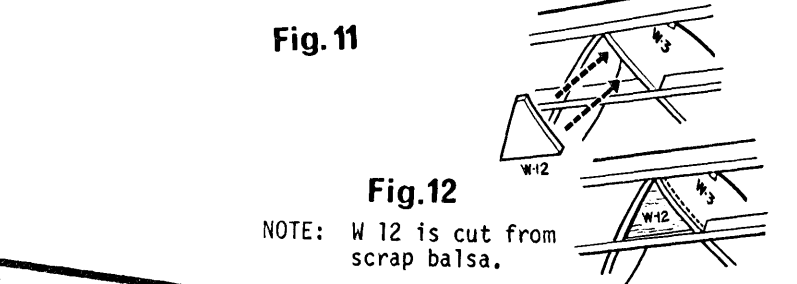
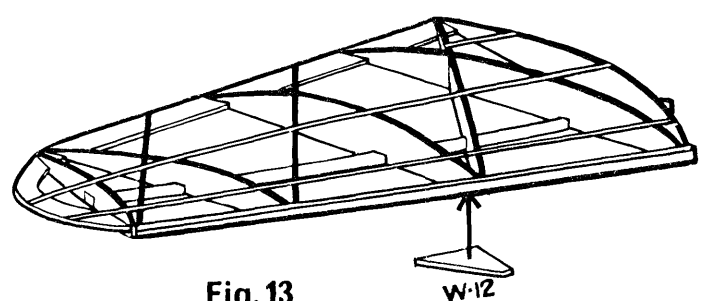
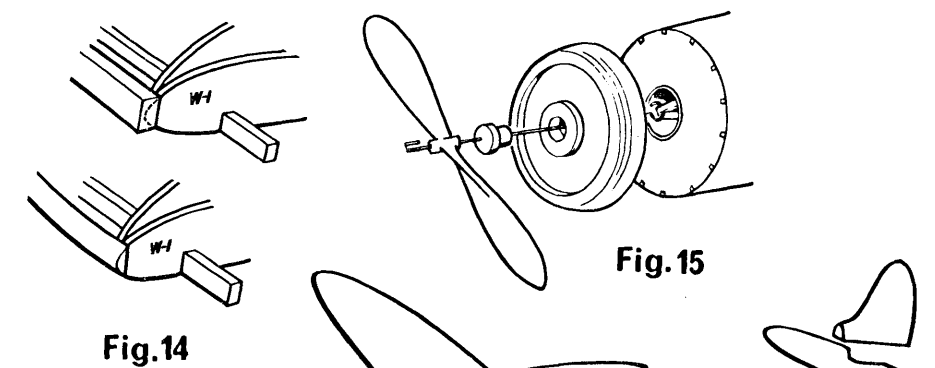

Fig. 11
Fig. 13
Fig. 14
STEP 12. Now glue W 10 to W 11. When dry, glue to W 8 (Fig. 11) at an angle shown in FIG. E. Cut leading edge spar to length (FIG. D) and glue to front of ribs, pin to hold in position while drying. (Note it will make assembly of leading edge easier if the tips of wing formers are sanded to a flat surface.) When dry pins may be removed. Proceed by gluing W 12 into place (Fig. 12). Now complete wing by gluing top stringers into notches (Fig. 13), trim off excess when dry. Repeat wing assembly steps for other wing half. Finish leading edges by trimming excess wood and sanding to rounded edge (Fig. 14). Trailing edges can also be sanded and rounded at this time.